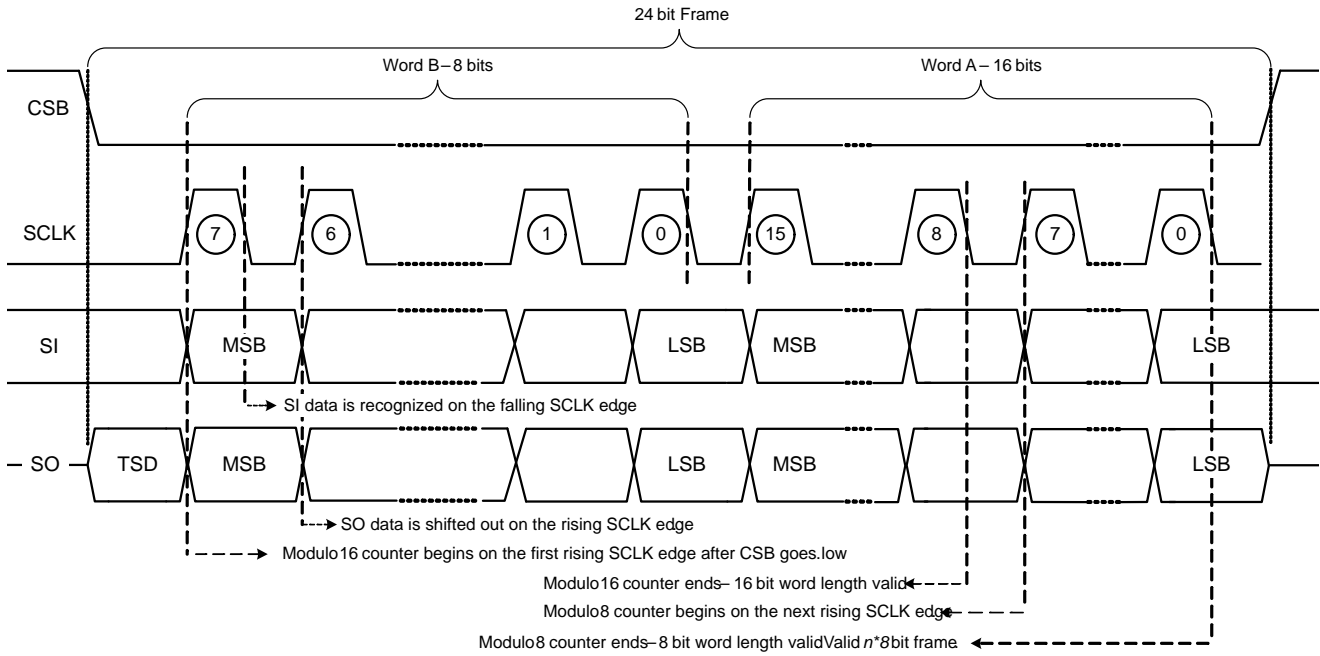

Figure 17. SPI Data Recognition and Frame Detection
Communication is implemented as follows and is also illustrated in Figure 17:
Daisy chain communications between multiple of 8-bit SPI compatible IC's is possible by connection of the serial output pin (SO) to the input of the sequential IC (SI). The clock phase and clock polarity respect to the data must be the same for all the devices on the chain. Figure 16 illustrates the hardware configuration of NCV7728 daisy chained with a  $n \times 8$  bit (ie  $n = 2$ ; 16 bit) SPI device. The progression of data from the MCU through the sequential devices is also shown. Strict adherence to the frame format illustrated in Figure 17 is required for the proper serial daisy chain operations.